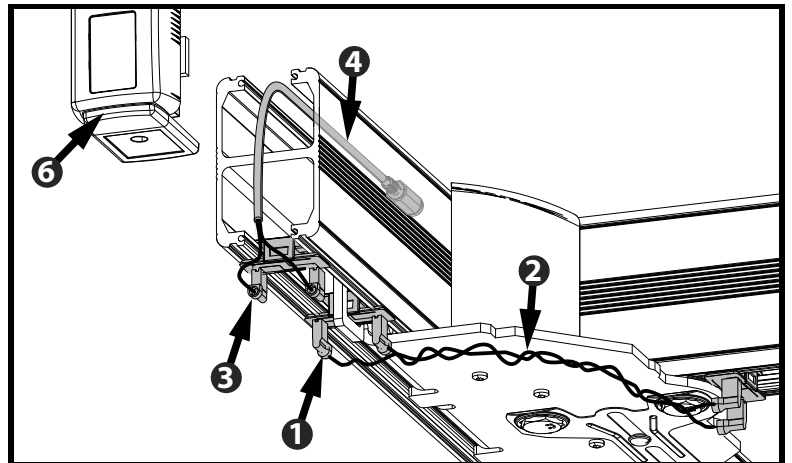

Fig. 18
- 2) Using cable #402.07660, connect both contact box assembly, installed previously, as shown in Fig. 18.
- 4) Using cable #402.07650, route the cable inside the top portion of the track and connect it to the power supply. Bring the other end down and connect it to the contact box assembly, assembled in step (3).
- 5) Continue trolley installation from step (10) on page 9.
- 7) Install all plastic covers taking care not to damage any cables. Continue routing cable, installed in step (2), between trolley plate and bottom cover.